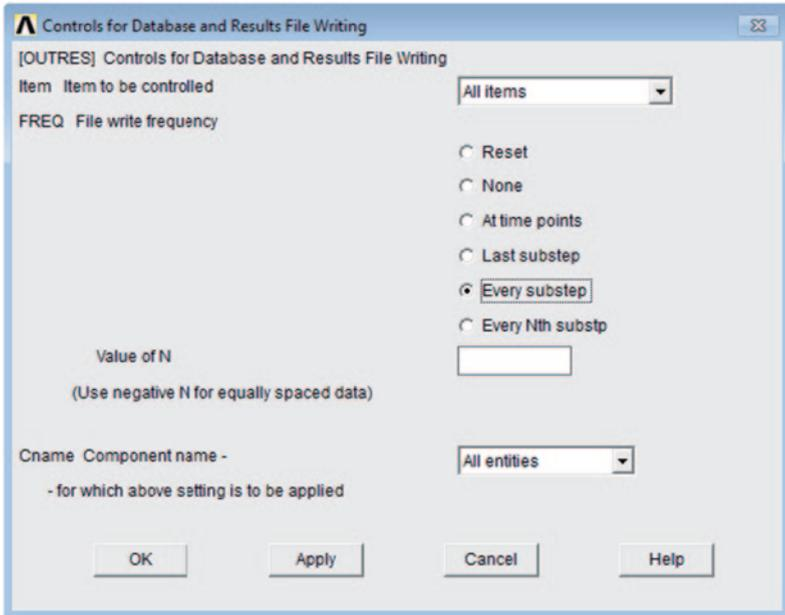

Fig. 5.21 *Output controls* dialog box used in the analysis
- As shown in Fig. 5.21, click on the **Every substep** radio-button for **FREQ File write frequency**; click on **OK**.